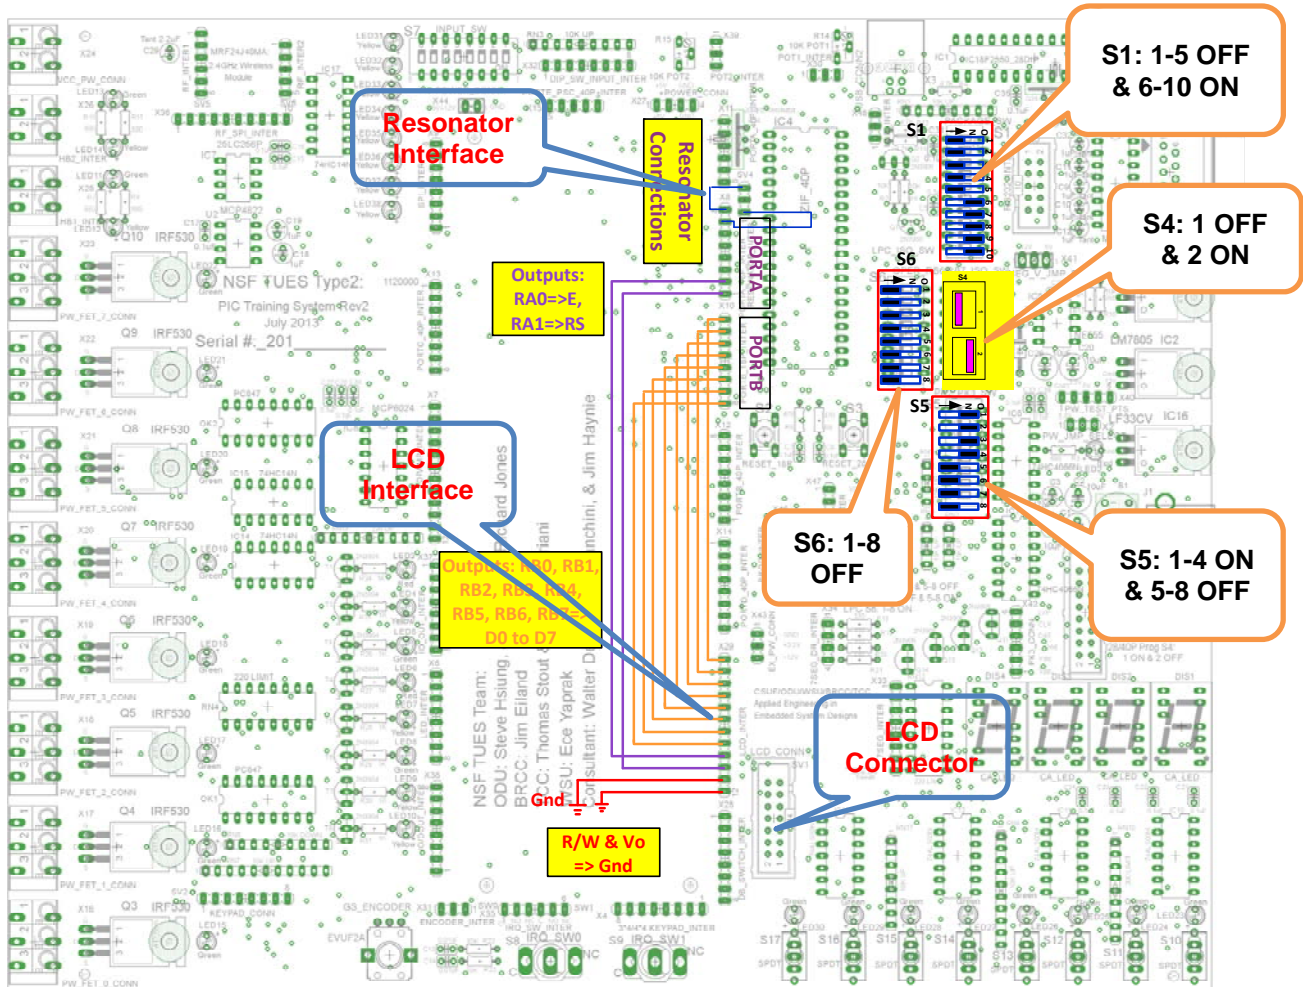

Figure 2. LCD Test Interconnections, Switch Settings, and PIC Placement
**NOTE: Refer to Figure 2 and photo 3 for guidance while making connections, setting switches, and inserting the PIC MCU.**
This Figure 2 only demonstrates the regular LCD module interface that does not include the LCD module requires negative reference voltage on its Vo line. Please see Pages 9-12 for details.